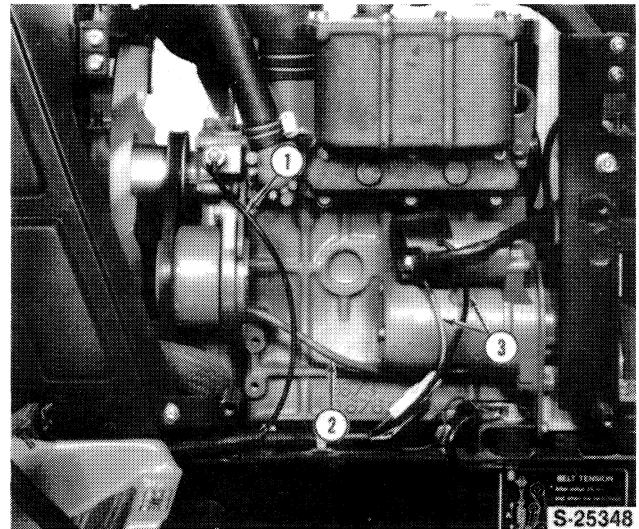

Figure 15
- 17. Disconnect the coolant temperature sensor wire (1) from the sensor switch, Figure 15.
- 18. Remove the wires (2) from the alternator assembly, Figure 15.
- 19. Remove the battery cable and wires (3) from the starter motor, Figure 15.
- 20. Remove the front grill support as shown in Figure 15.